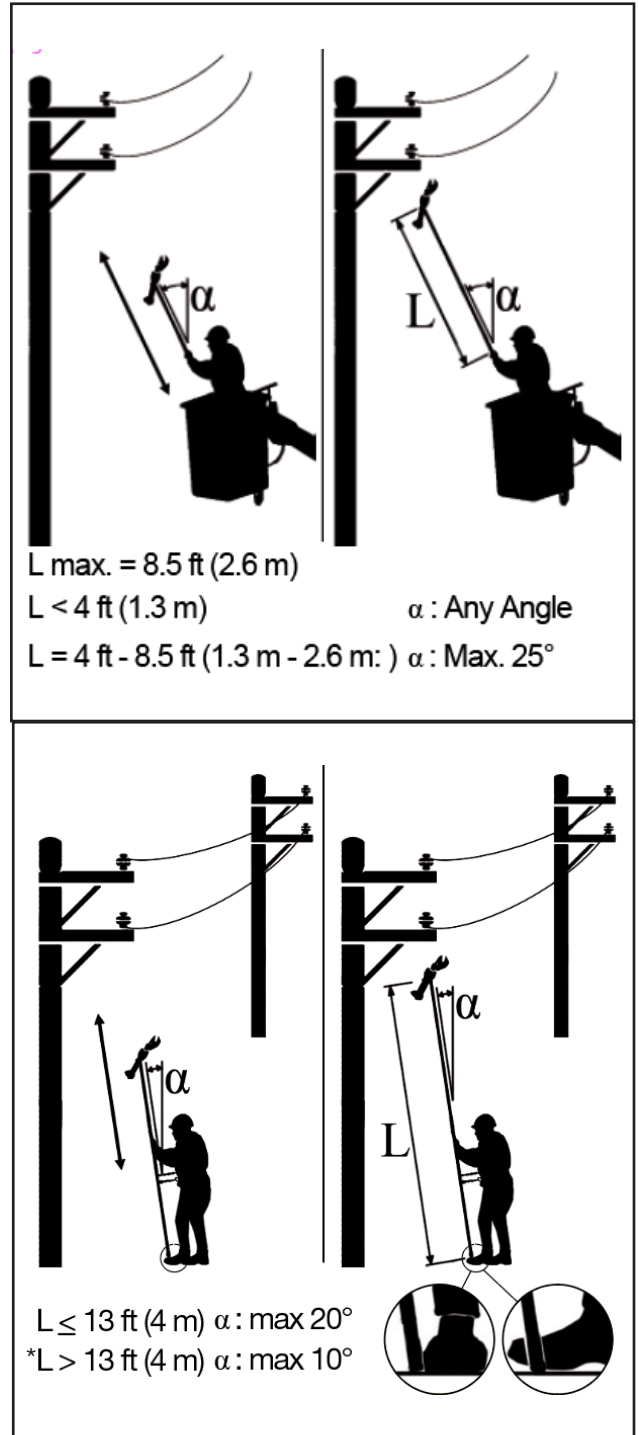

Figure 9
9. Hold the hot stick with both hands and brace the end of the hot stick with your foot or the basket wall to reduce the risk of twisting or losing control of the tool. Extend the hot stick and keep the hot stick angled slightly in front of you (Fig. 9).